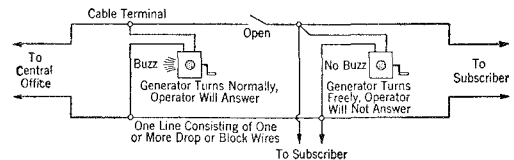

Fig. 9
**3.05** When testing to locate an open in the drop or block wiring in areas where the ringing is selective and the ringers are not bridged across the line, the magneto test set should be bridged across the affected line by placing one test clip on one conductor and the other test clip on the other conductor of the pair. Place the test set switch in the proper position for calling and spin the handle of the generator. If the generator turns as it normally would on a clear line and the buzzer operates the open is not between the central office and the point at which the test is being made. If the generator turns freely and the buzzer does not operate the open is toward the central office. (See Figure 9.) By properly repeating this test at suitably selected points, the open may be definitely located. (Follow the principles that are outlined in paragraph 3.02.)